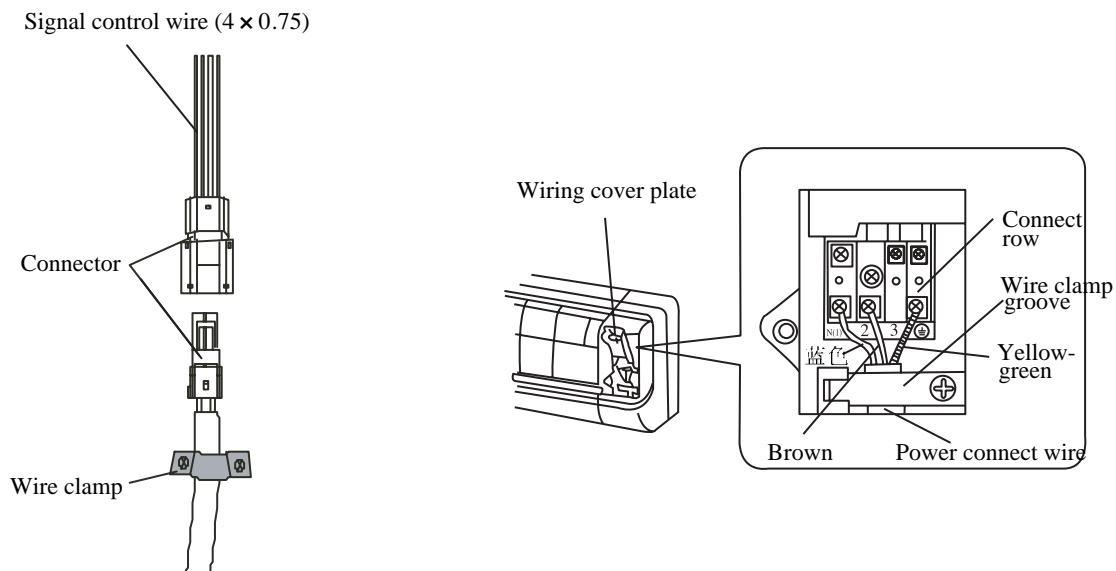

Fig.11-4
⑤ Electric wiring
4. Connect blue wire in power connecting wire to terminal N (1) on connect board and brown wire on "2" terminal, then yellow-green wire (earth wire) to terminal \oplus
5. To heat pump unit, signal connect wire (4×0.75) should be connected to indoor unit through connector (as shown in fig. 11-4), and have the control wire clamped by wire clamp that placed under case.